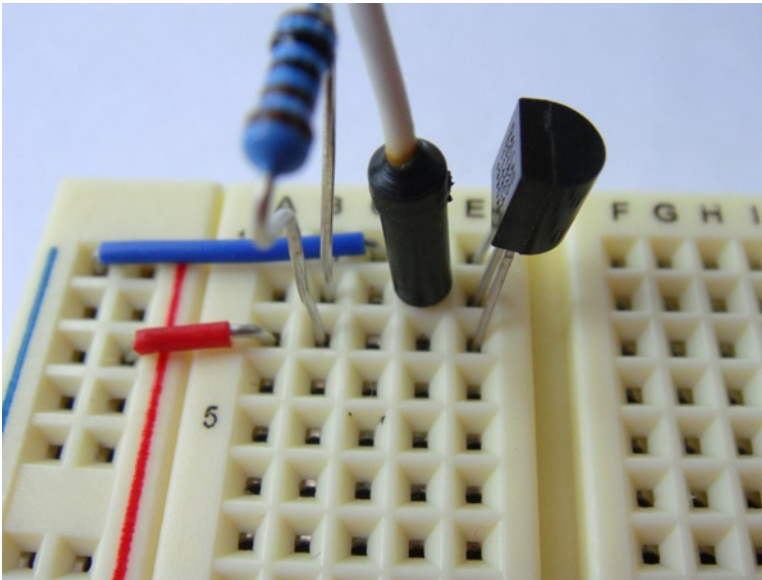
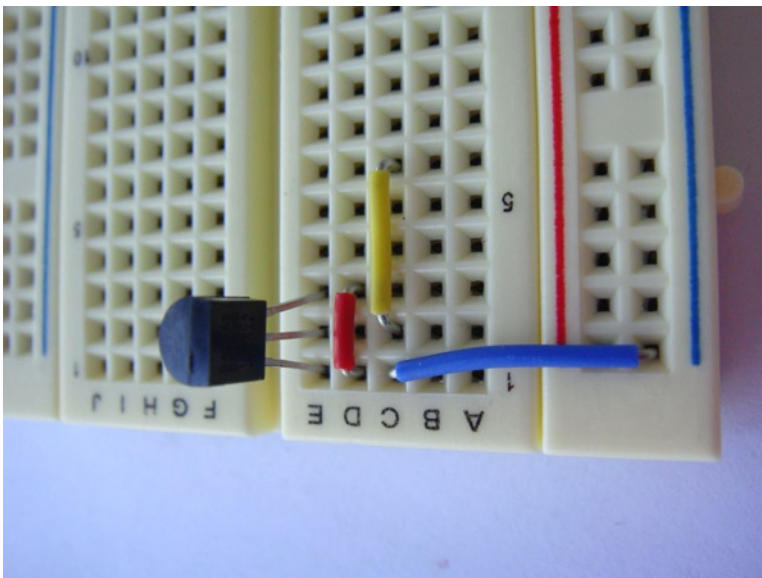

Figure 3-11. *The final connections in standard mode*
Figure 3-12. *Jumpers for the parasite mode installed*
5. After this, you insert a hook-up wire from between the sensor and the resistor to P1-07 (GPIO-4) on the Raspberry Pi. In Figure 3-11 you can see the final connection. In Figure 3-11 you can see you have used all three pins (this is standard mode, remember). In a multidrop long-range deployment that would be a lot of wires! This is where the parasite mode comes in.
6. Now go ahead and pull everything but the DS1820B off your breadboard. Once again, start off by connecting your jumper wires. Connect pin 1 to ground as shown in Figure 3-11. Now place a jumper between pin 1 and pin 3. According to the data sheets for the DS1820B you must tie the Vdd line to the GND line. You're going to need to place a jumper wire out from pin 2 to a new row on the breadboard. Take a look at Figure 3-12: it will be much easier to see how I have done it.